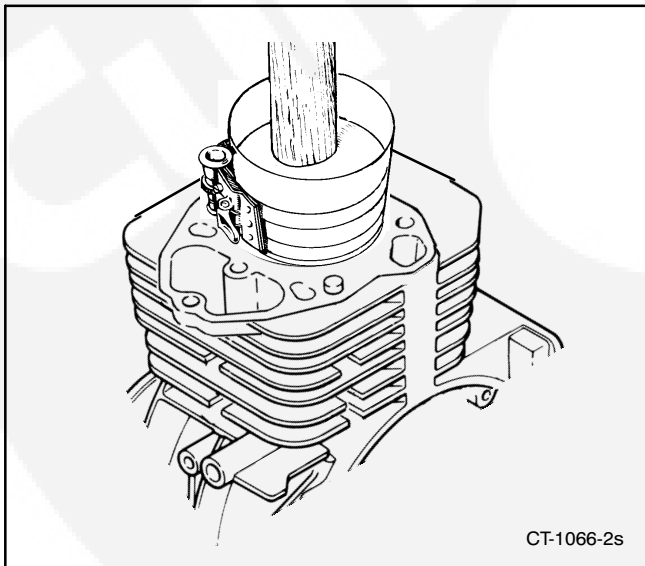

FIGURE 10-24. INSTALLING PISTON
2. Lubricate piston assembly and inside of cylinder. Compression rings with a ring compressor as shown in Figure 10-24.